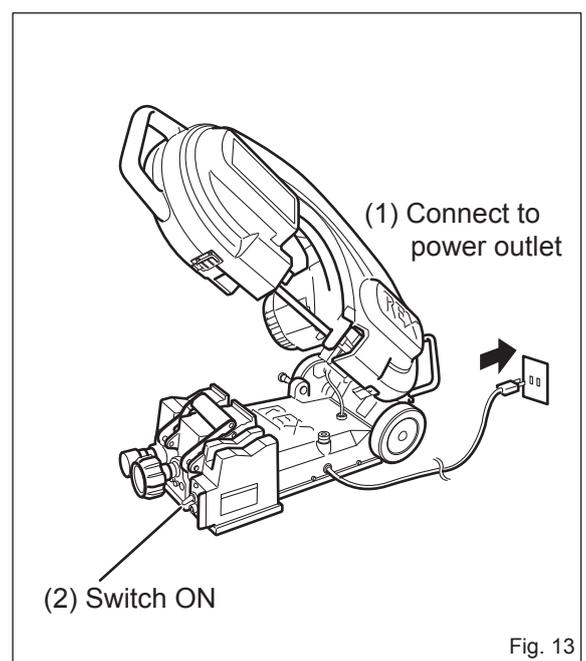

Fig. 13
5. Preliminary Inspection (Fig. 13)